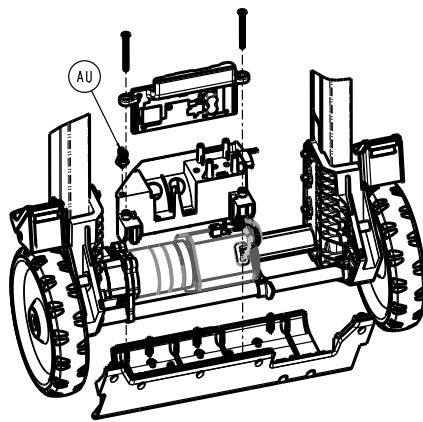

Figure 8 –
3. Using wire cutters, cut the cable tie that secures the battery connector wires to the power box lower cover. Remove and discard the fir tree mount (AU) (Figure 8). Discard the cable tie.